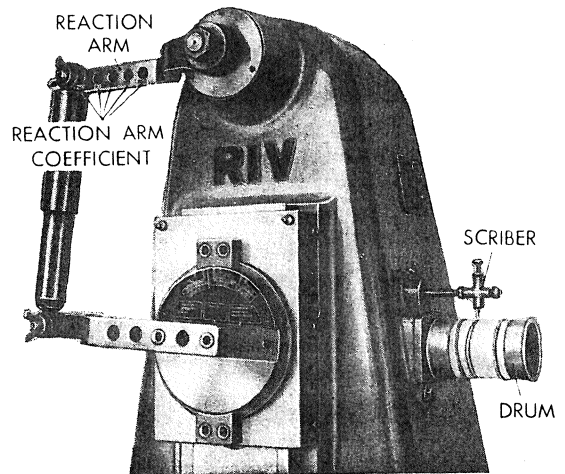

Fig. 323 - Detail of the A. 76003 shock absorber tester head.
- a) Adjust reaction arm length at 9.843" (250 mm) (fig. 323).
slide side (fig. 323) relevant to shock absorber under test.
Let shock absorber complete four or five cycles before tracing the dampening diagram by lowering the scriber to contact the paper sheet rolled on the drum (fig. 323).